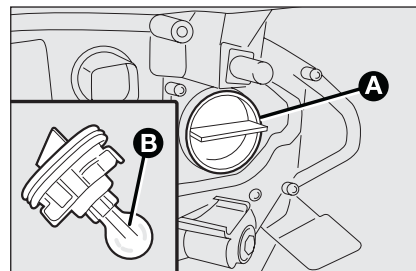

fig. 23
- remove the bulb **B-fig. 23** and replace it;